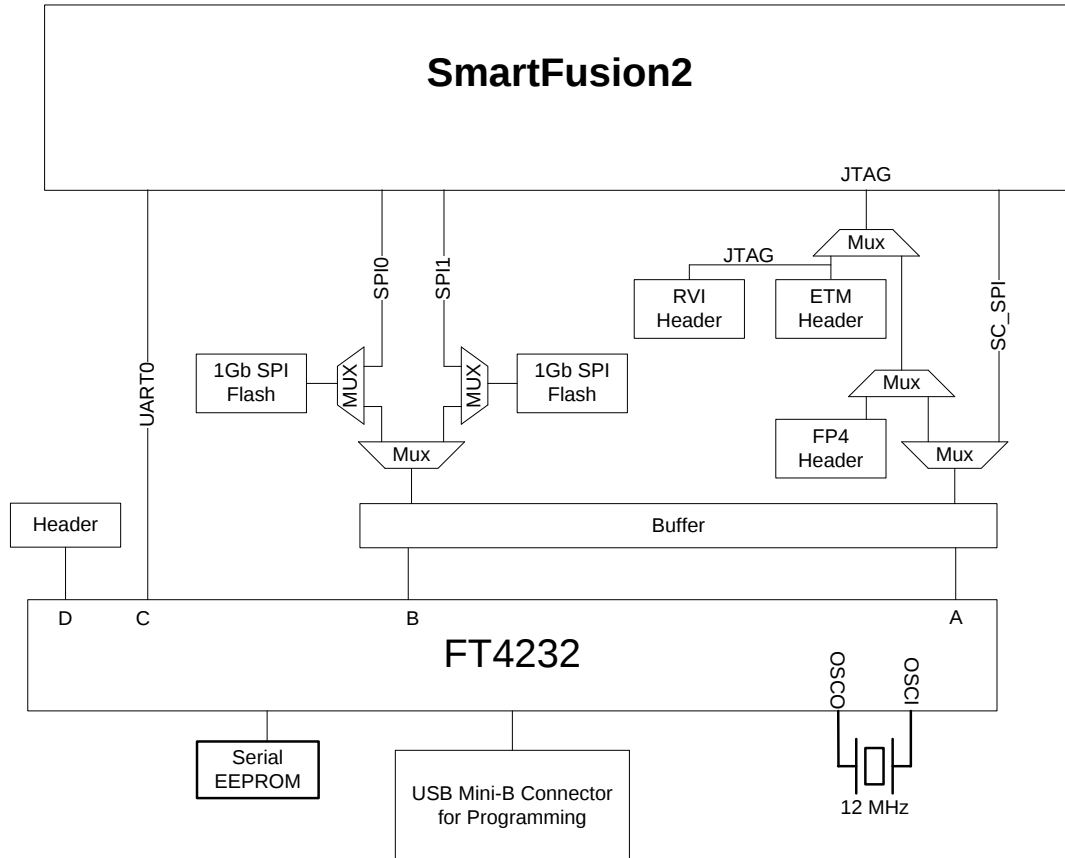

Figure 13 · Programming Interface
- For interface details refer to Figure 13.